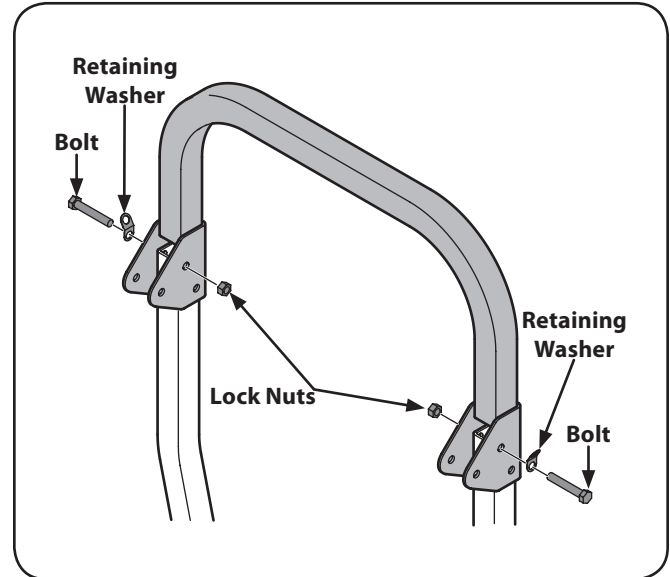

Figure 3-4
4. Install the upper ROPS section onto the lower ROPS "posts". Install the bolts, retaining washers and lock nuts. See Fig. 3-4.